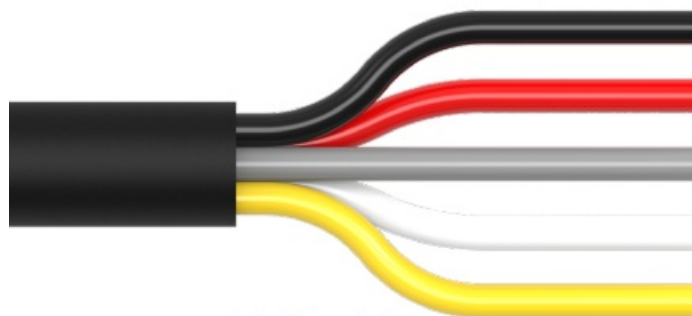

FIG. 3
2. See Fig. 3 for individual wire functions. Refer to the perimeter strobe light instructions to program the RED, GREY and WHITE wires to desired strobe patterns.